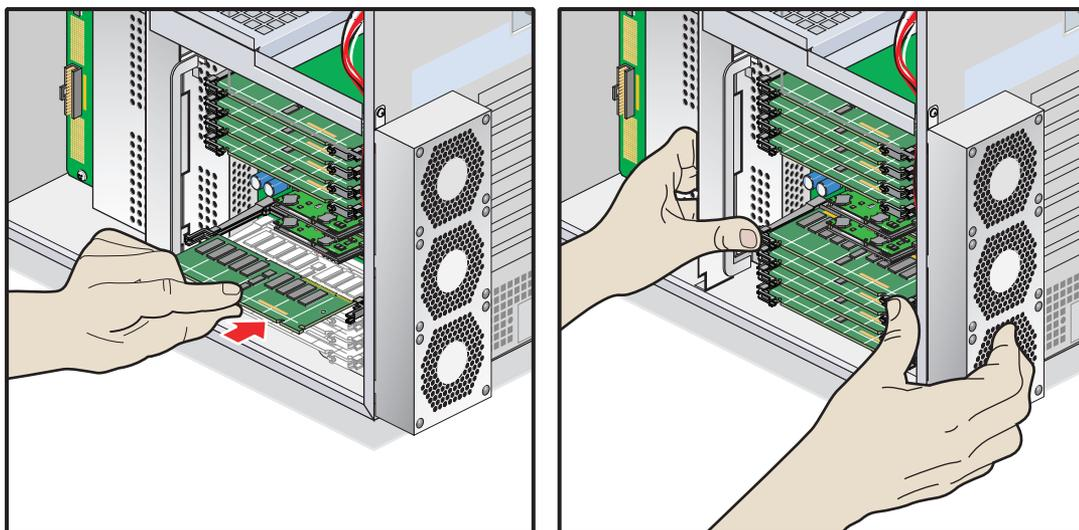

Figure 3-11 DIMM Installation Example
- d. Insert the bottom edge of the DIMM into the socket, and then press evenly on the DIMM until it seats correctly. Use extreme care when you install a DIMM. If you apply too much pressure, you can damage the socket. See Figure 3-11 for an example.